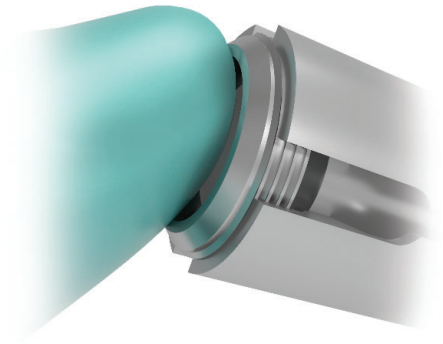

Figure 38
**Note:** The Locking Cap only engages in one orientation. The concave surface must be pointing toward the screw (Figure 38). To avoid mis-threading, the screwdriver shaft should be perpendicular to the base plate to properly seat the locking screw. Failure to slide back the Locking Screw Holder may impede Locking Cap insertion.